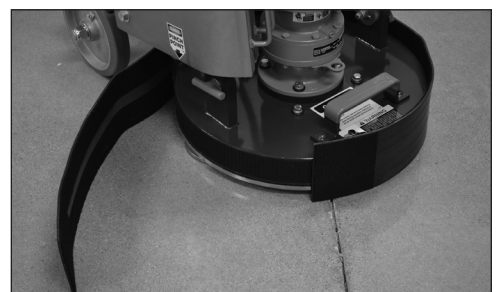

FIG. 3
2. Attach dust guard (Figure 3), keeping as close to the floor as possible.
5. Wrap rubber guard all the way around the shroud, making sure the guard rests on the floor surface and is secure (Figure 3).